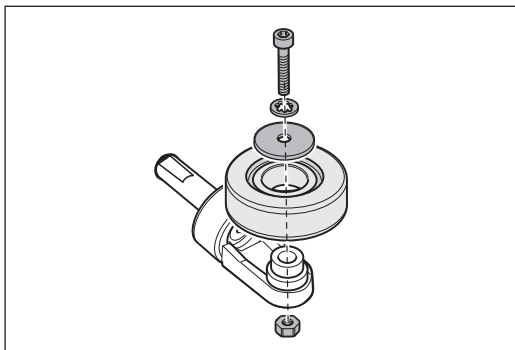

Fig. 55 Remove the screw with the washers and nut in the centre of the wheel and take off the rear wheel. Assemble in reverse sequence.
- 6 Release the screw in the centre of the wheel and remove the screw, washers and nut (Fig. 55). Ensure that you do not lose the nut.